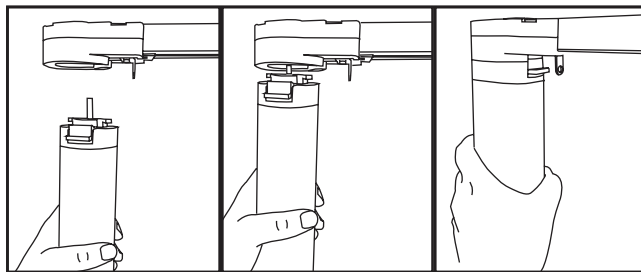

Figure 2.4.1 - Attach motor
4.1 - On a single drapery, insert the Primary motor shaft onto the motor end of the drapery track and twist the motor into place. Motor is not secure until you hear a click. See Figure 2.4.1.